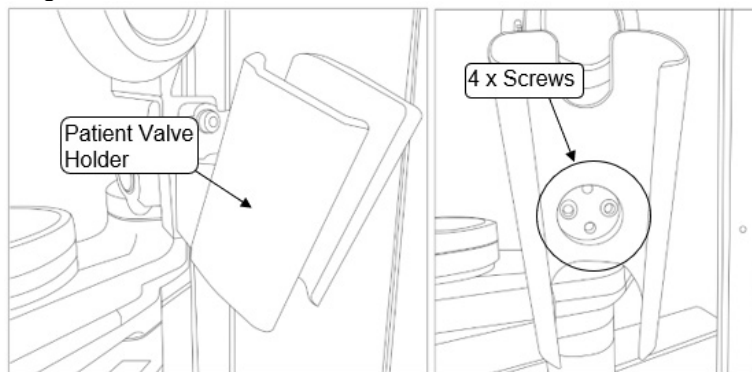

Figure 5- Patient Valve Control Arm Holder
- Attach the Patient Valve Holder (23) from Accessories Box to the Patient Valve Control Arm Holder (25) using the four M5 bolts supplied. See figure 5 below: